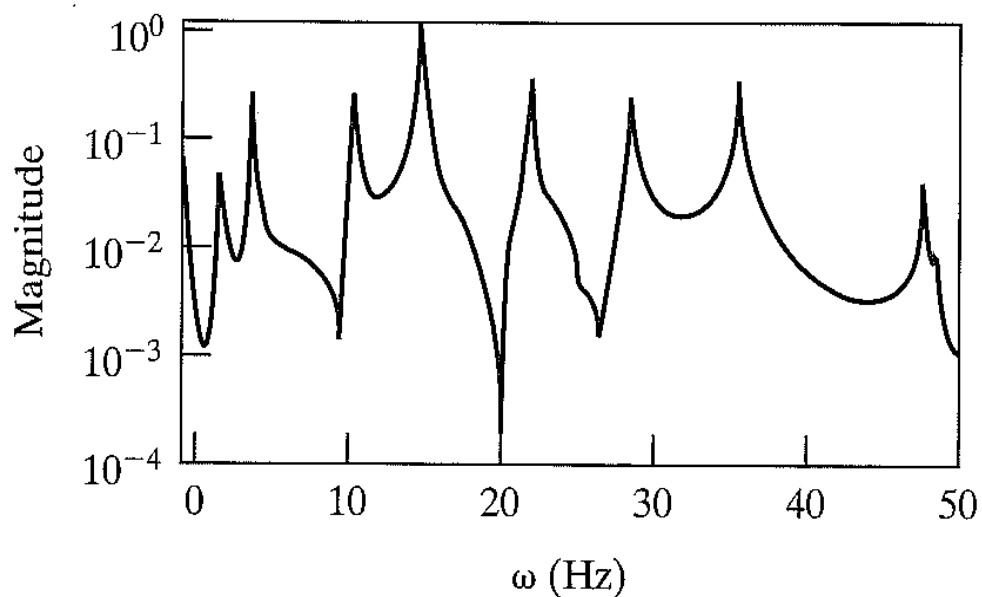

Figure 4*
- a) The sample magnitude plot for a simple structure is shown on Figure 4. How many natural frequencies does this system have, and what are their approximate values?